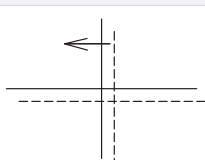

Fig.3
2. Fully loosen 2screws-B on the Adjustment Tool. See Fig.3